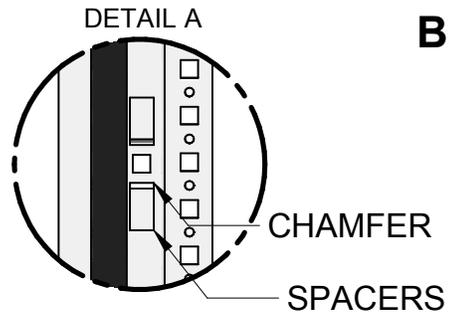

FIG 1. GASKET PLACEMENT
A) Remove adhesive back from HME Nylon Spacer and stick to the outside of the frame above and below the cutouts as shown in fig. 1, detail A. Chamfer facing cutout.
B) Measure and cut top and bottom gasket as shows in fig.1. Peel adhesive and install centre on flanges top and bottom.
C) Measure and cut vertical gaskets as shows in fig.1. Peel adhesive and install on frame outside of square cut-outs